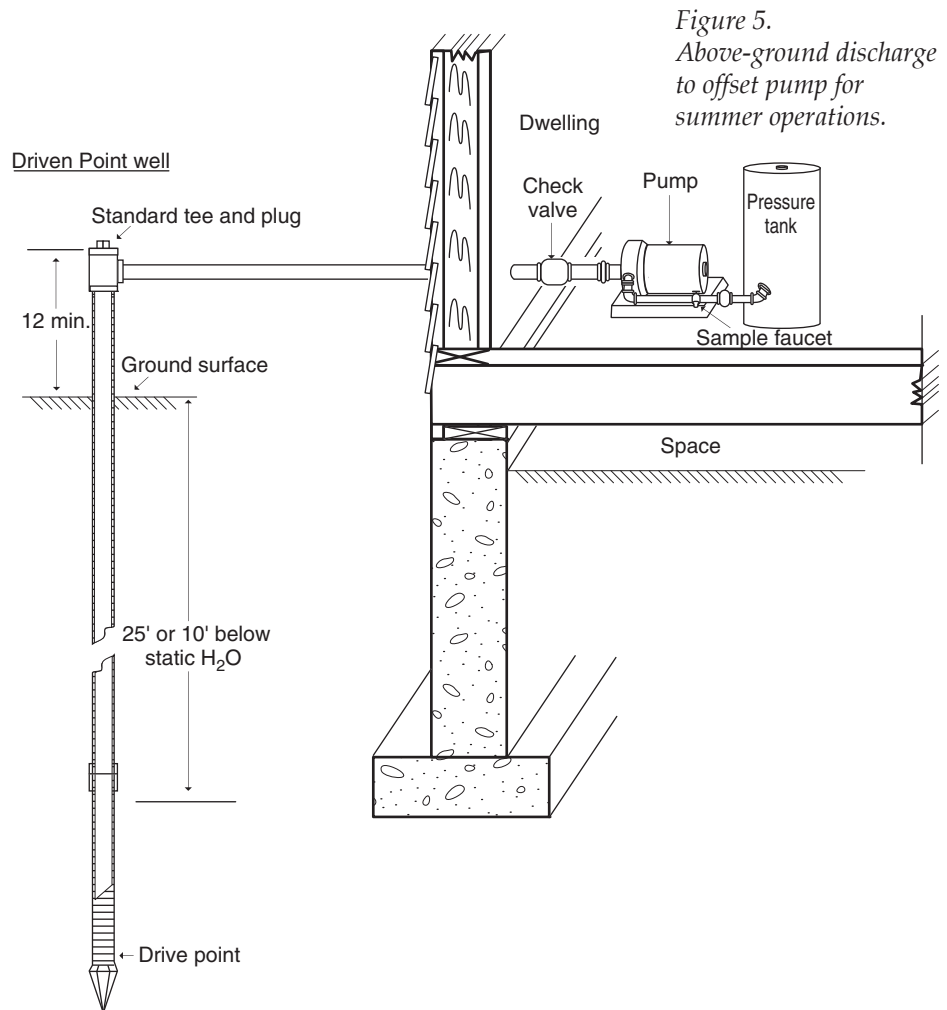

Figure 5.
- ▼ Outside, unprotected for warm season operation (*Figure 5*).